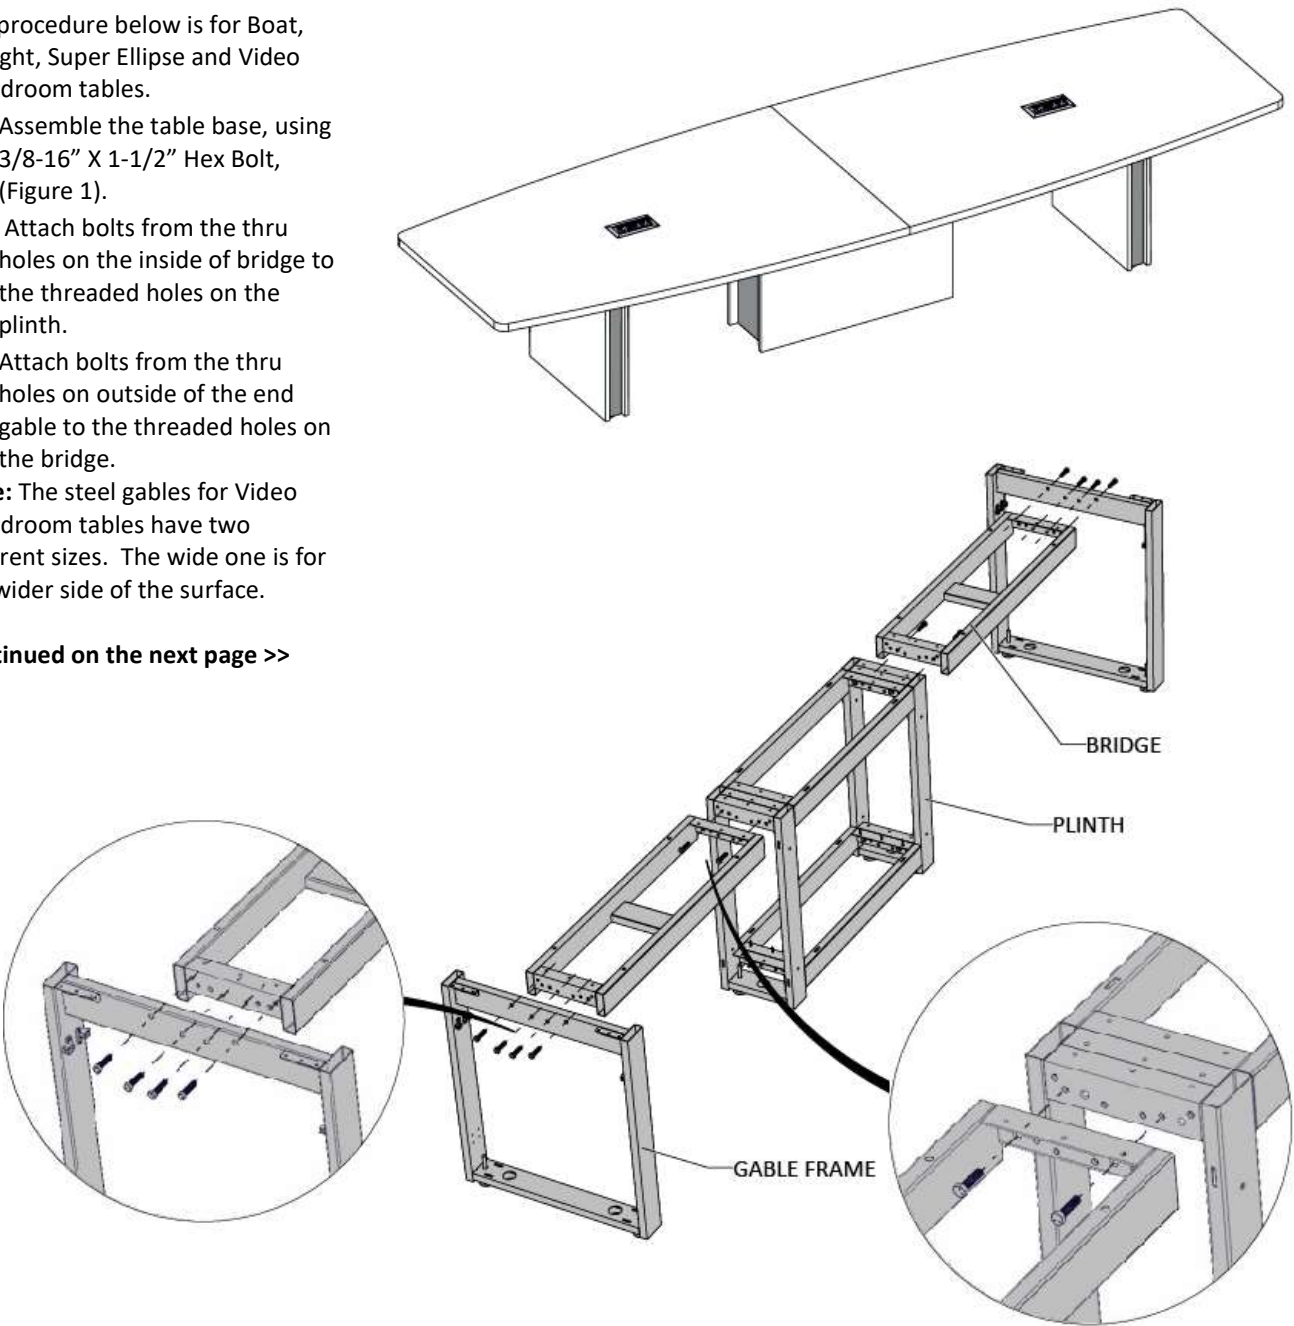

Figure 1
1. Assemble the table base, using 3/8-16" X 1-1/2" Hex Bolt, (Figure 1).